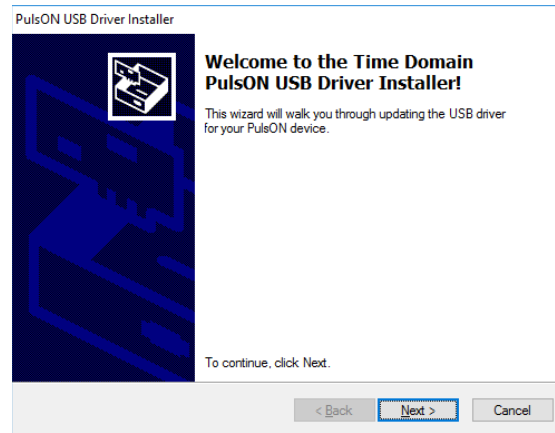

Fig. 2: USB Driver installation display
- Once the installation of RangeNet has completed, the installer will then load a USB driver. See **Figure 2**.